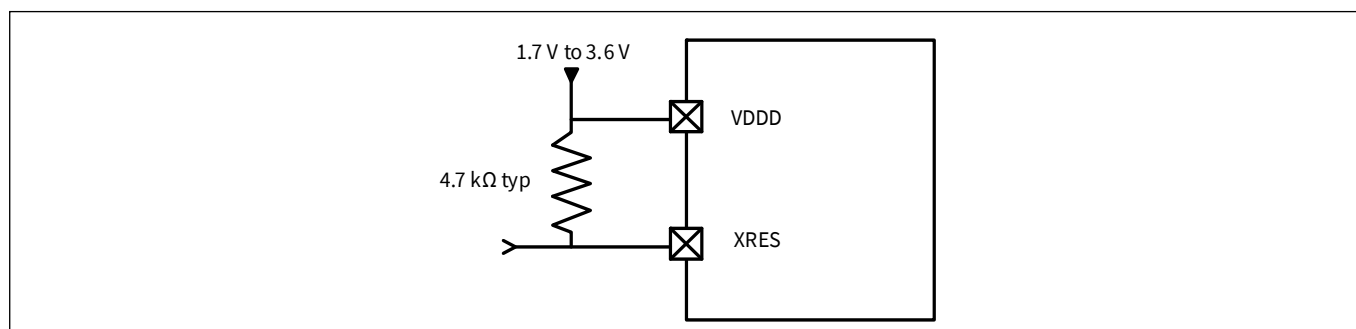

Figure 5 XRES connection diagram
- External reset dedicated pin (XRES) to reset the device using an external source. The XRES pin is active LOW and has a weak internal pull up of 85 kΩ. An optional 4.7 kΩ pull up resistor can be connected to VDDD as shown in Figure 5.